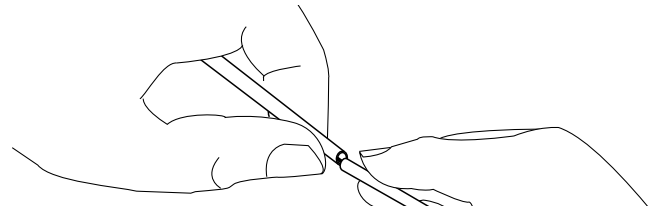

Figure 11
Step 3: Carefully flex the tube to break it at the score point (Figure 11).